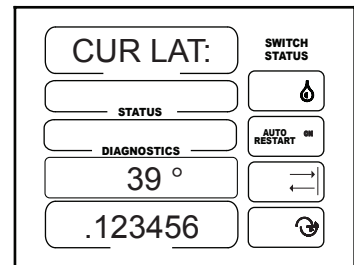

Figure 45-2
1. CUR LAT: and GPS coordinates should be displayed. See figure 45-2.